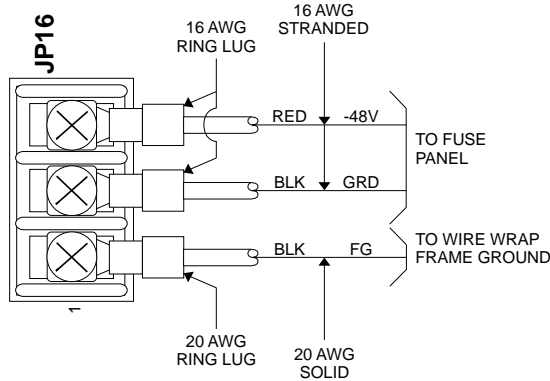

Figure 12. Power Connections on JP16
The BR1/10 19" Single Chassis provides a three-position terminal strip, JP16, on the backplane for power connections (see Figure 12). Ring lug terminations are recommended for connecting to JP16. Insert the -48V office battery supply lead into terminal 3 (-48I) of JP16. Insert the battery return into terminal 2 (-48R). Insert the frame ground, or chassis ground, into terminal 1 (FG).